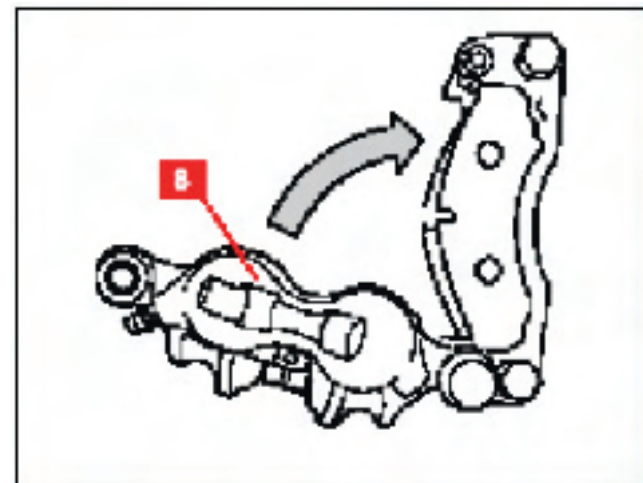

Figure 21 — Rotate caliper back onto rotor.
2. Carefully rotate the caliper body around the tightened sliding guide (see Fig. 21).